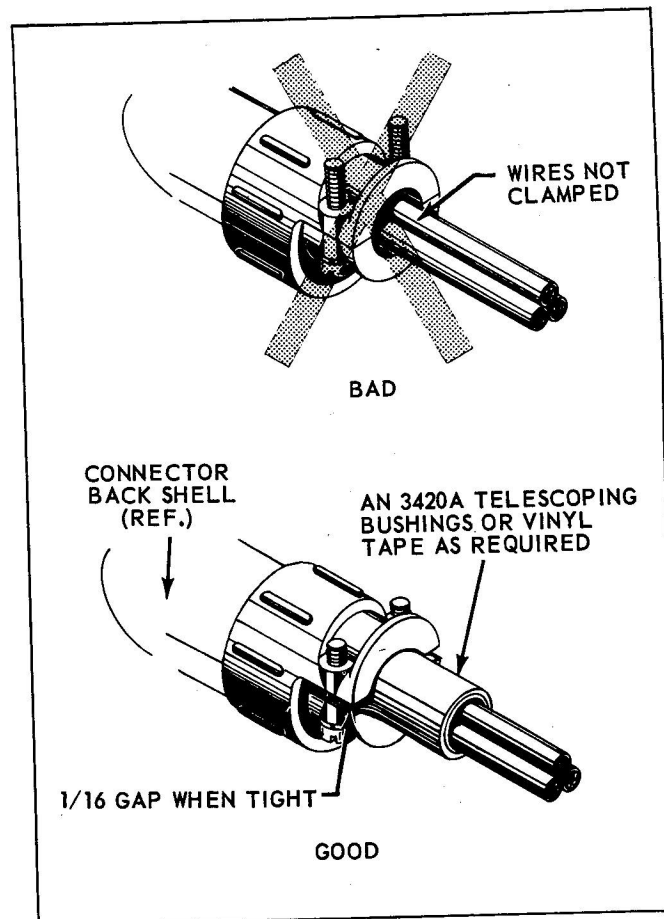

Figure 3-37. Installation of AN 3057 Clamp
- Attach saddle with both screws and tighten until 1/16 inch space is left between saddle and body as shown in Figure 3-37. AN 3420A bushing, if used, should bulge slightly when saddle is tight.